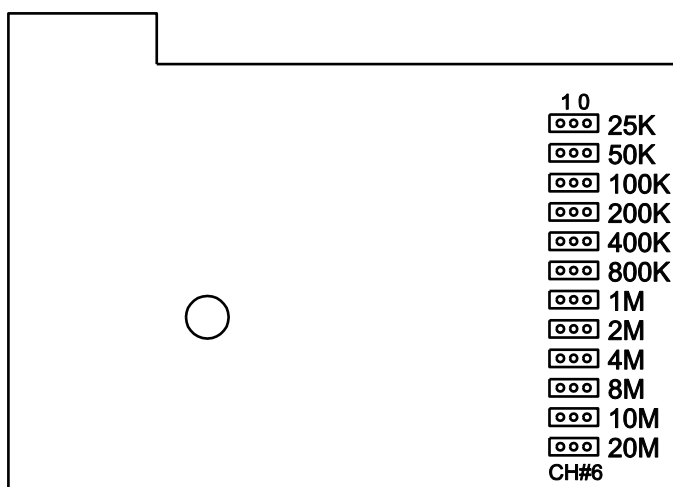

Figure 2. Frequency Set Jumpers
1. Determine the operating frequency to be programmed. Jumpers on the Single-Channel Memory Set Board (Figure 2) are used to set the frequency based on its MHz and kHz components.